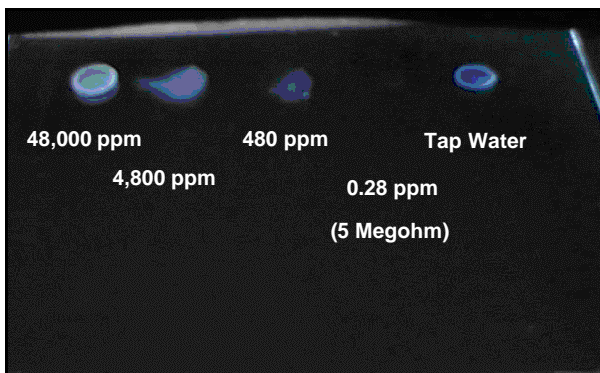

Figure 5: Precision rinsing water quality
In precision applications, the quality of the rinsewater itself can be a factor in the effectiveness of the rinsing stage (*see Figure 5*). In most cases, deionized (DI) water is required. In the deionization process, organics are removed by carbon, and special functional exchange resins remove the ions. Biological growth is controlled with ultraviolet lights and special filtration. One method of measuring rinsewater quality is through resistivity or conductivity (*see Figure 6*). This is a measure of the electrical insulation properties of the water. Dirty and tap water may contain many ions that conduct electricity, lowering the resistivity.